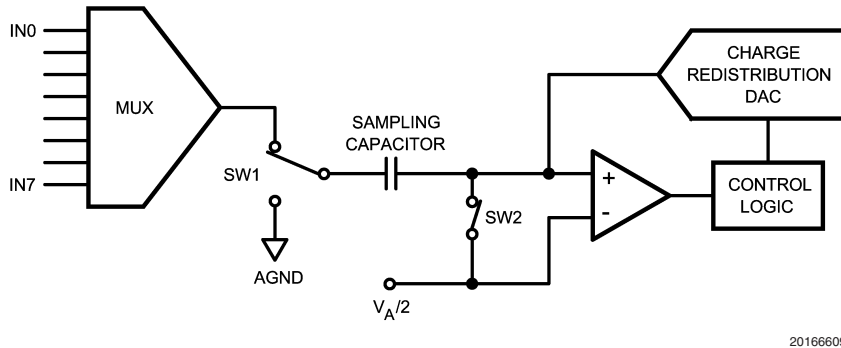
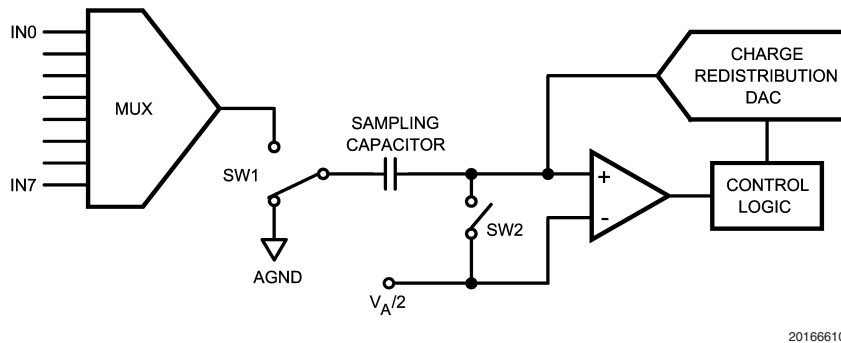

FIGURE 4. ADC088S052 in Track Mode
FIGURE 5. ADC088S052 in Hold Mode
Simplified schematics of the ADC088S052 in both track and hold operation are shown in *Figure 4* and *Figure 5* respectively. In *Figure 4*, the ADC088S052 is in track mode: switch SW1 connects the sampling capacitor to one of eight analog input channels through the multiplexer, and SW2 balances the comparator inputs. The ADC088S052 is in this state for the first three SCLK cycles after  $\overline{CS}$  is brought low.
*Figure 5* shows the ADC088S052 in hold mode: switch SW1 connects the sampling capacitor to ground, maintaining the sampled voltage, and switch SW2 unbalances the comparator. The control logic then instructs the charge-redistribution DAC to add or subtract fixed amounts of charge to or from the sampling capacitor until the comparator is balanced. When the comparator is balanced, the digital word supplied to the DAC is the digital representation of the analog input voltage. The ADC088S052 is in this state for the last thirteen SCLK cycles after  $\overline{CS}$  is brought low.